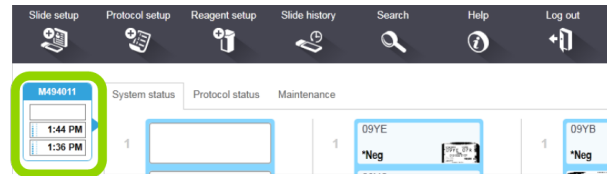

Figure 16: BOND RX screen with Processing Module icon indicated
3. Load the BOND Research Detection System onto the BOND RX/RX^m. The instrument will recognize containers and check volumes. Once it has finished, you may click on the **Processing Module** icon (see Figure 16) to view the status of any of the containers in the **System Status** window. Locate the desired container in this window and right-click on it. Select **Inventory** to view the volume measured in the container. Refill if required.